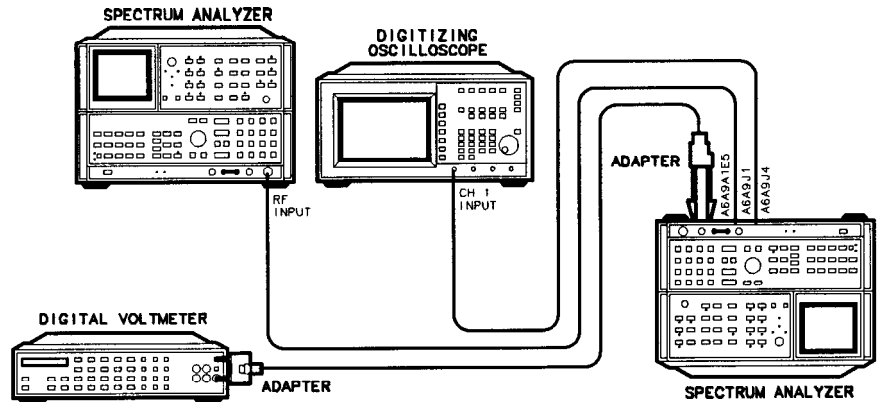

Figure 3-81. RF Module Phase Lock Adjustments Setup
1. Set the spectrum analyzer LINE switch to STANDBY. Turn the spectrum analyzer over to position the RF Section on top, as shown in Figure 3-81, and remove the RF Section bottom cover.